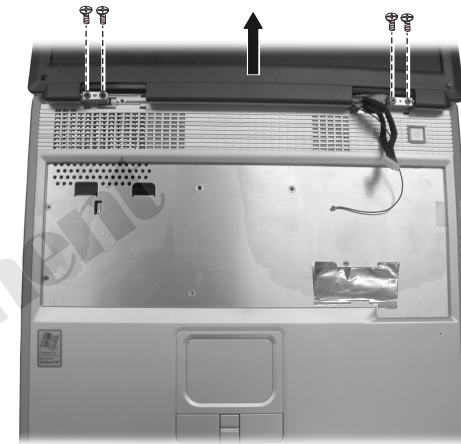

Figure 2-16 Free the LCD assembly
5. Remove the four screws and put up the LCD assembly, then free the LCD assembly. (Figure 2-16)